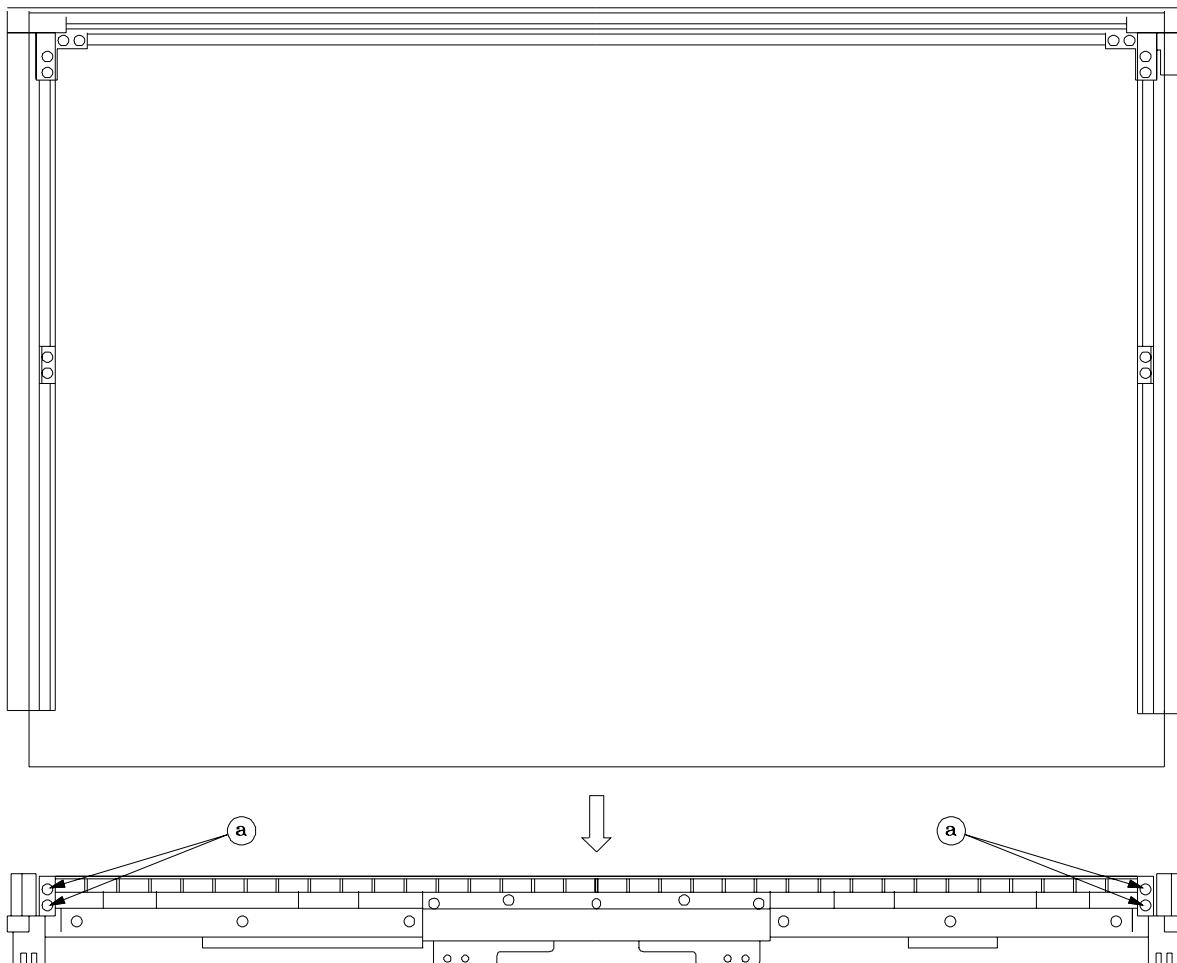

Figure 1: SCREEN-FRAME-BOTTOM Removal (Rear View)
Chassis Cover Removal (Figure 1)
2. Remove the four screws (a) to remove the bottom of the SCREEN-FRAME-BOTTOM . (*Figure 1*)